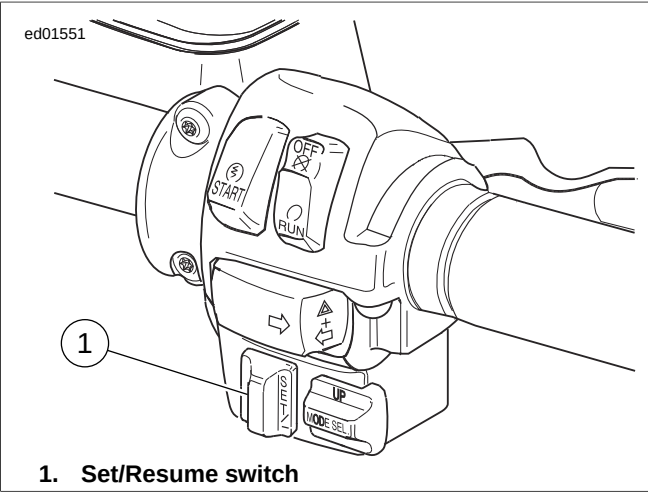

Figure 5-8. Right Handlebar Switch Assembly: FLHTCU, FLTRX, FLTRU
2. See Figure 5-8. With the motorcycle traveling at the desired cruise speed, 30-90 mph (48-145 km/h), momentarily push the cruise SET/RESUME switch to SET.